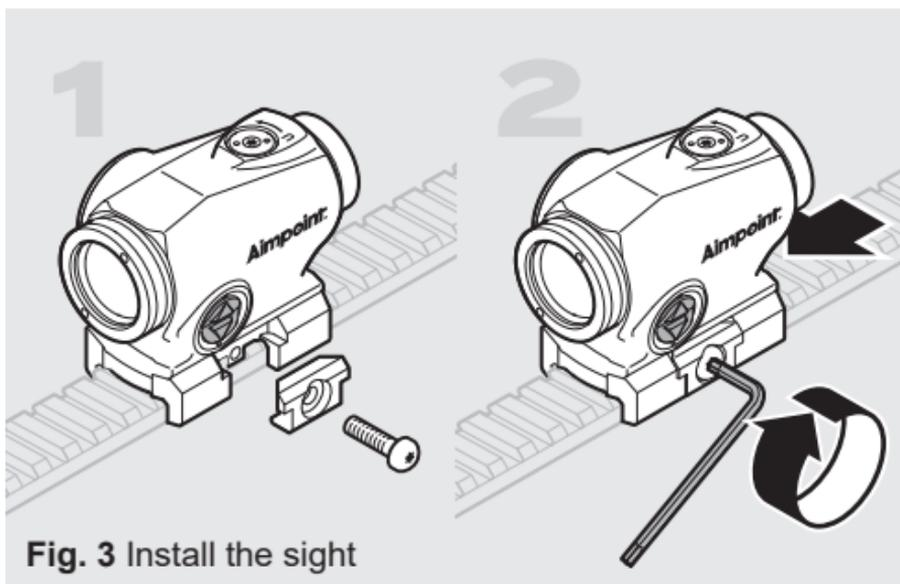

Fig. 3 Install the sight
- a Loosen the screw (12) using the Torx T10 tool (3), and clamp the locking bar (11) around the Picatinny rail.
- b With the recoil stop positioned in a groove of the Picatinny rail, push the sight forward (towards muzzle) and tighten the screw using the tool. See Fig. 3.